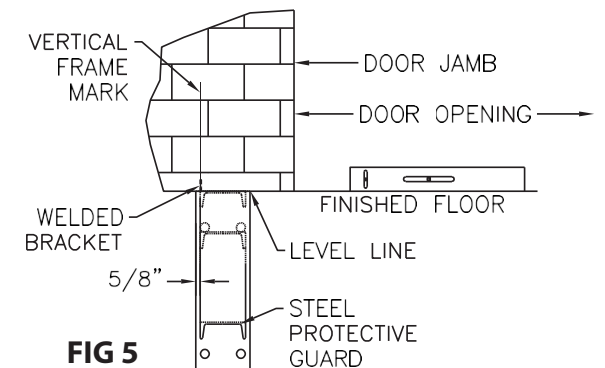

FIG 5
- * Determine left and right Protective Guards. The welded bracket goes to the side farthest away from door opening (**Figure 5**).